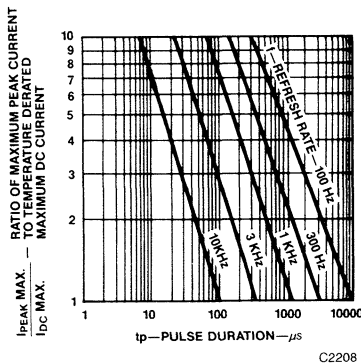

Fig. 6. Maximum Tolerable Peak Current vs. Peak Duration ($I_{\text{PEAK MAX}}$ Determined from Temperature Derated $I_{\text{DC MAX}}$)
2. Refer to Figure 6 to establish pulsed operating conditions.